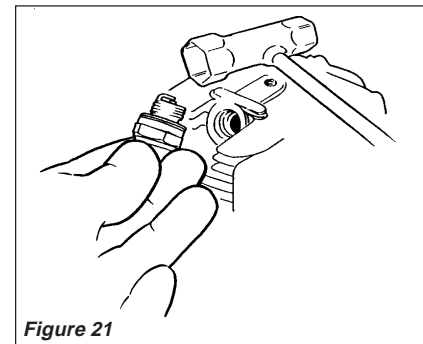

Figure 21
1. Disconnect the spark plug lead and use the spark plug wrench to remove the spark plug (turn counter clockwise to remove). See Figure 21.